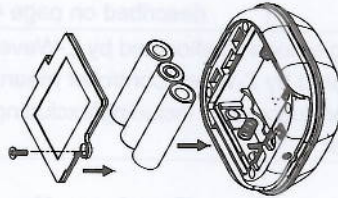

FIGURE 3
3. Insert 3 AA-size 1.5V alkaline batteries to the battery compartment, ensuring correct polarity is put (FIGURE 3).